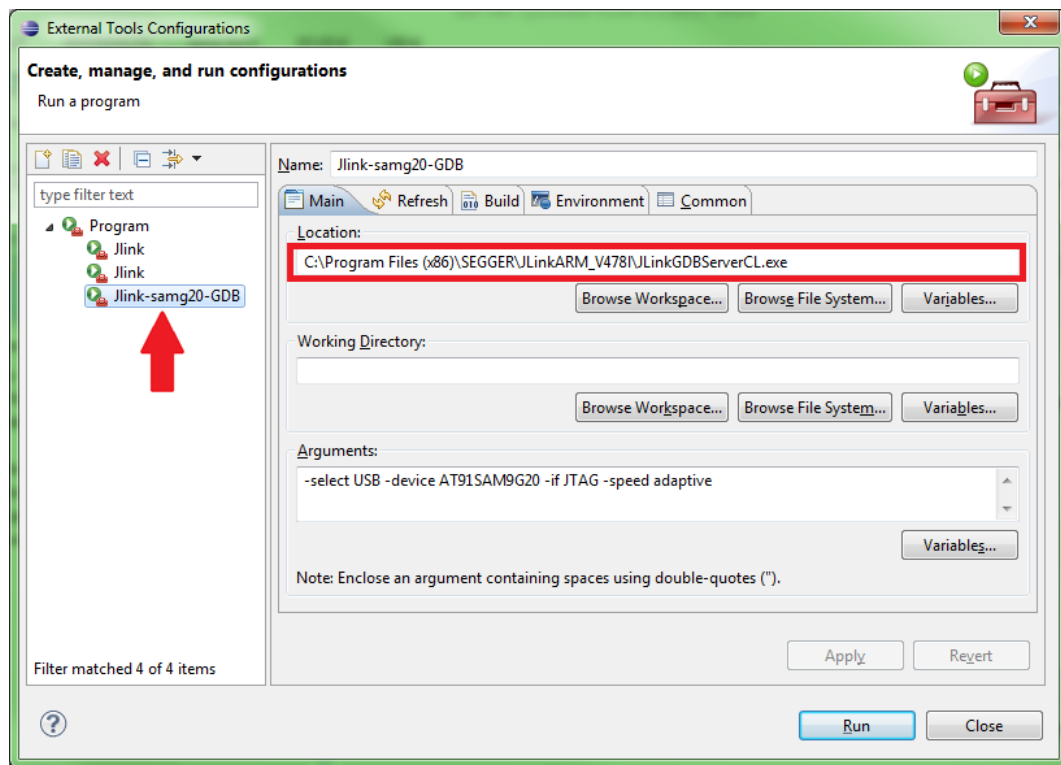

Figure 12 - Update/Verify that the correct path to the GBD server executable is in place for the 'JLink-samg20-GDB' launch configuration.
6. Make sure the 'Location' string contains the correct path using the J-Link version installed on the system. Copy/paste the path to an explorer for quick verification. See Figure 12.